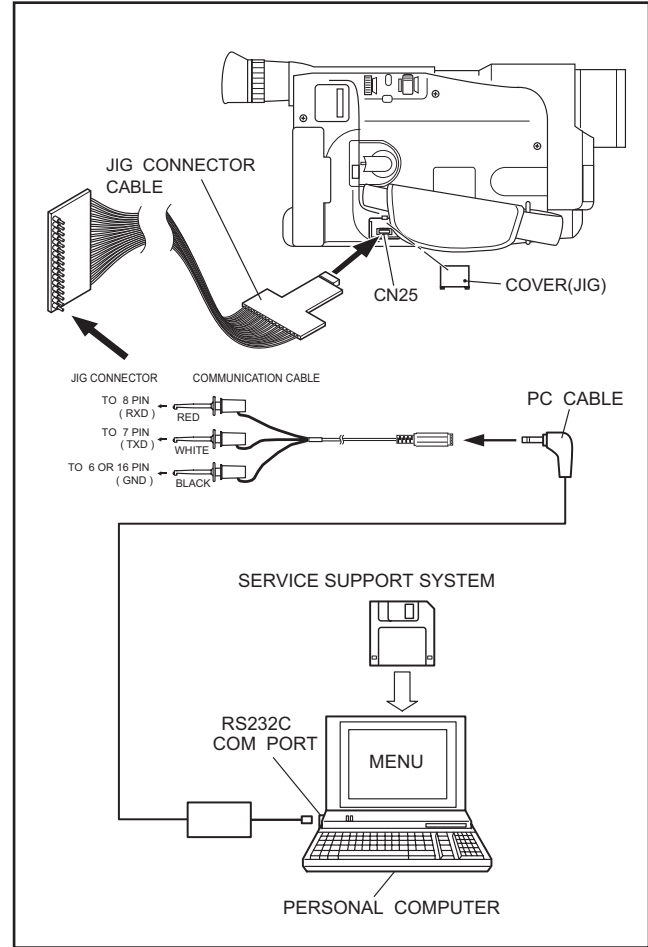

Fig.4-2-1
- (1) Remove the Cover (JIG) shown on Fig.4-2-1.
- (2) Connect the JIG CONNECTOR CABLE to CN25 on the MAIN BOARD ASSEMBLY.
- (3) Connect the channel-1 scope probe to the audio output (AO_SIG_J) and connect the channel-2 scope probe to PB CTL.
- (4) Playback the alignment tape.
- (5) Set the tracking to its center range by pressing the (+) and (-) tracking controls simultaneously.
- (6) Adjust screws[A], [B] and [C] approximately 45 degrees in the same direction to obtain maximum audio output and CTL signal levels.
- (7) As a final fine adjustment, adjust screw [B] for minimum signal level fluctuation and screw [C] for maximum output signal level.